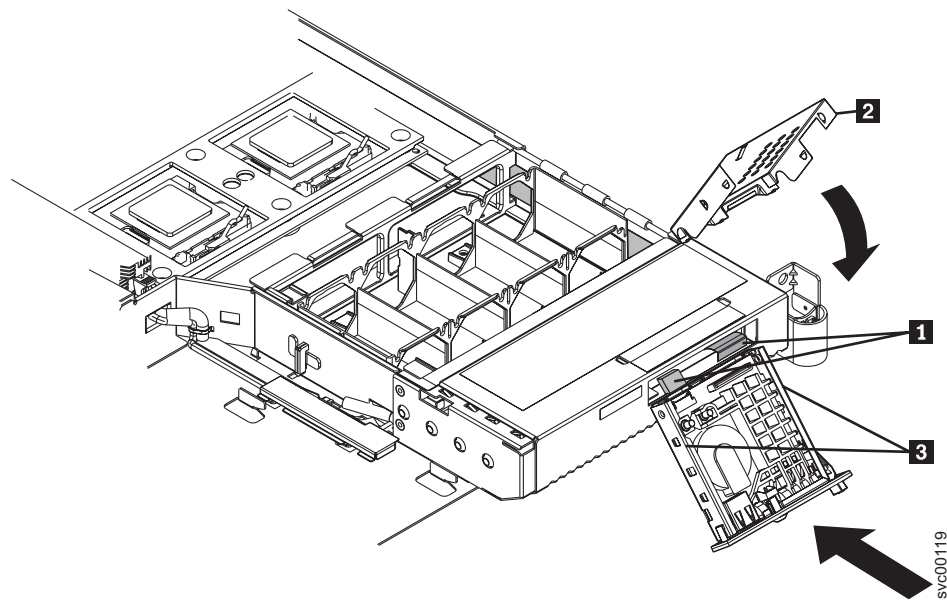

Figure 120. Replacing the operator information panel
1. Plug in the two cables on the rear of the assembly **1**. See Figure 120.